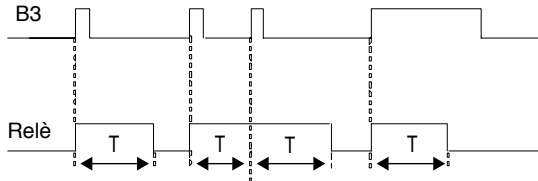

Fig. 12
- ON/OFF monostables: command with push button (local and / or remote) for stairs lighting or hallways with automatic switch off (see Fig. 12)